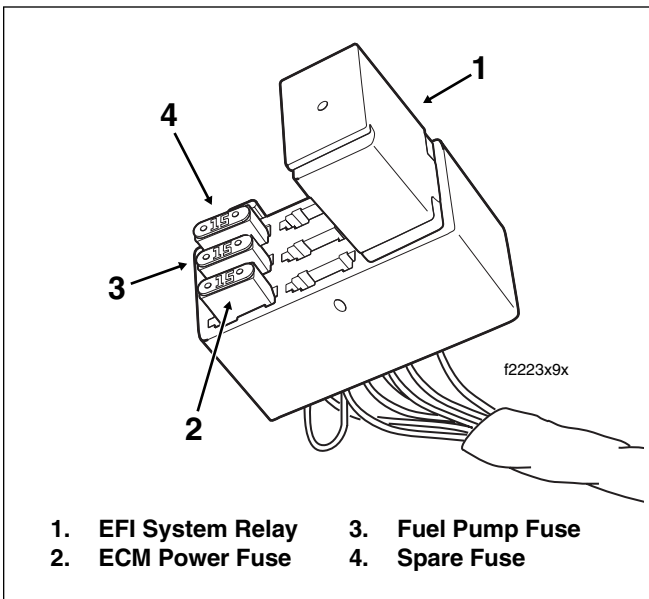

Figure 9-3. EFI Fuse Block
4. Pull relay/fuses from slots in fuse block and inspect for damage. See Figure 9-3. Replace fuse if the element is burned or broken. Standard automotive type ATO fuses are used.
1. Install relay/fuses in slots of fuse block. See Figure 9-3.